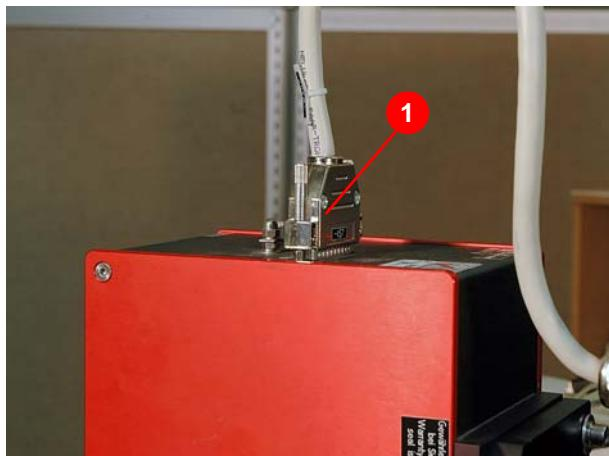

Figure 4.3 Galvo head connecting plug
1. Loosen and remove the connecting plug of the galvo head (1) (Figure 4.3).